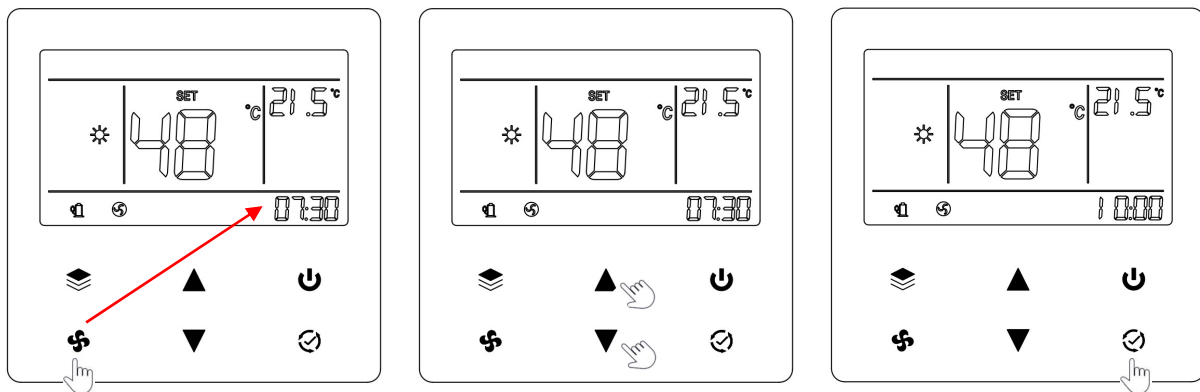

Figure 4. Operation diagram of clock setting
2. Long press or short press “▲” or “▼” to scroll to the current time point, such as 10:00 in Figure 4;